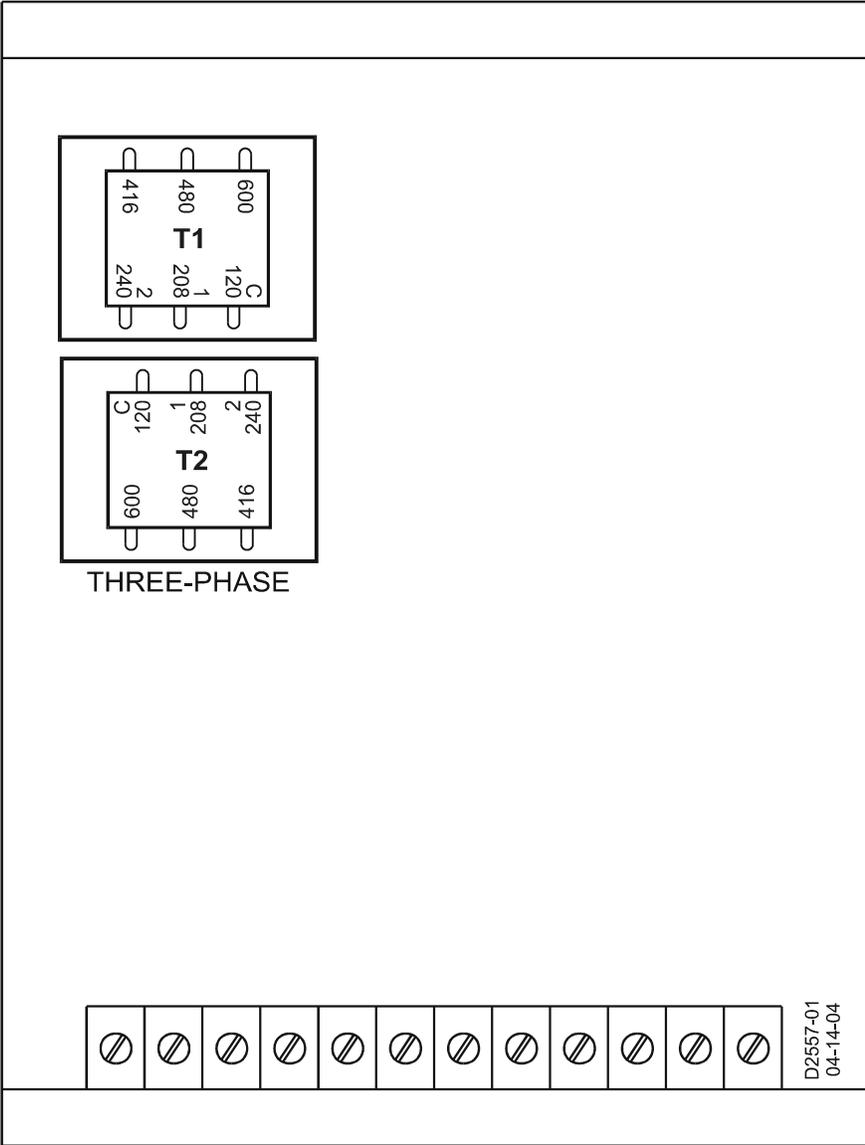

Figure 3-7. Top View of Voltage Regulator
(1) The voltage regulator(s) contain an internal sensing transformer(s) T1 (T2) provided with taps for various input sensing voltages. These sensing voltages are: 120, 208, 240, 416, 480, and 600 Vac (refer to Figure 3-7). The model number of the unit designates single-phase (T1) or three-phase (T1 and T2) sensing. For operation with generator voltages above 600 Vac, a potential transformers(s) must be used to supply the regulator sensing voltage. The regulator sensing circuit load is less than 10 VA and correct polarity must be maintained to the regulator sensing input.
(2) On single-phase sensing models, the voltage sensing leads are connected to terminals E1 and E3. For three-phase sensing, terminals E1, E2 and E3 are used. For precise voltage regulation, the sensing leads should be connected as close as possible to the point where regulation is desired. The regulator regulates the voltage that is applied to its sensing terminals. Therefore, it cannot correct for voltage drop in leads that may occur at points other than where the regulator sensing leads are connected. The leads that supply regulator sensing should not be used to supply power to any other equipment or to the regulator power stage (terminals 3 and 4).
(3) SR4A & SR8A Voltage Regulators are factory preset for 120 Vac sensing voltage. If the sensing voltage needs to be changed for your installation, perform the following steps.
(4) If the generator is to be operated in parallel with other generators, the phase relationship of sensing voltage and the paralleling current transformer is very important. (See paragraph 3-3 for further information.)